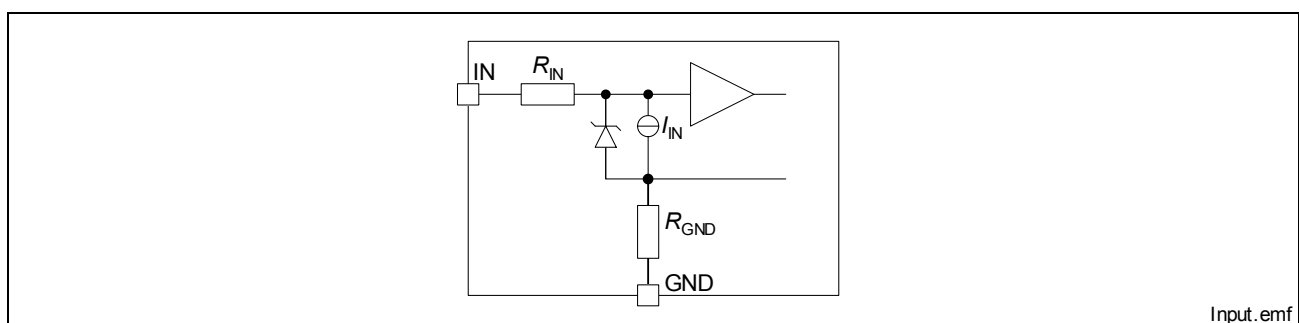

Figure 5 Input Circuit (IN1 and IN2)
**Figure 5** shows the input circuit of the BTS5236-2EKA. There is an integrated input resistor that makes external components obsolete. The current sink to ground ensures that the device switches off in case of open input pin. The zener diode protects the input circuit against ESD pulses.